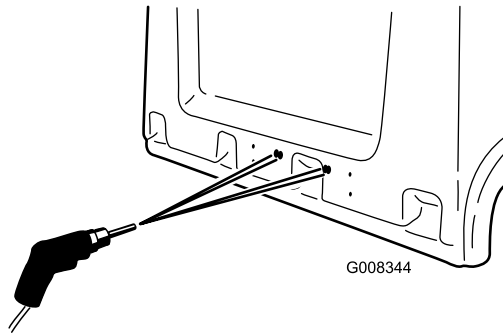

Figure 6
6. Enlarge each of the .203 pilot holes to 1/2 inch diameter for clearance holes for the latch lock nuts (Figure 6).